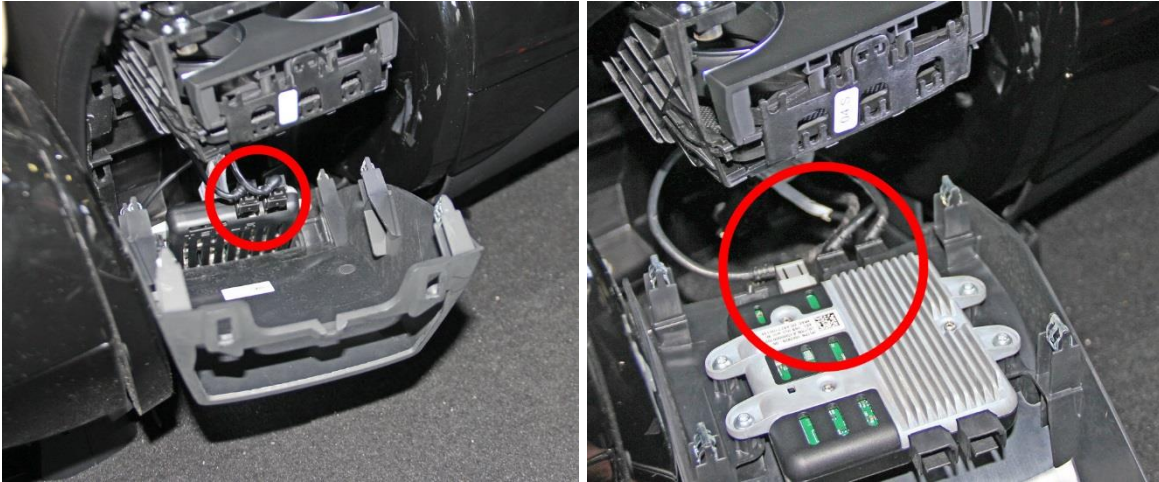

Figure 25. Disconnecting the harnesses from the trim panel
- h. Release the clips that secure the rear center console trim, then disconnect the harnesses from the trim panel (Figure 25).